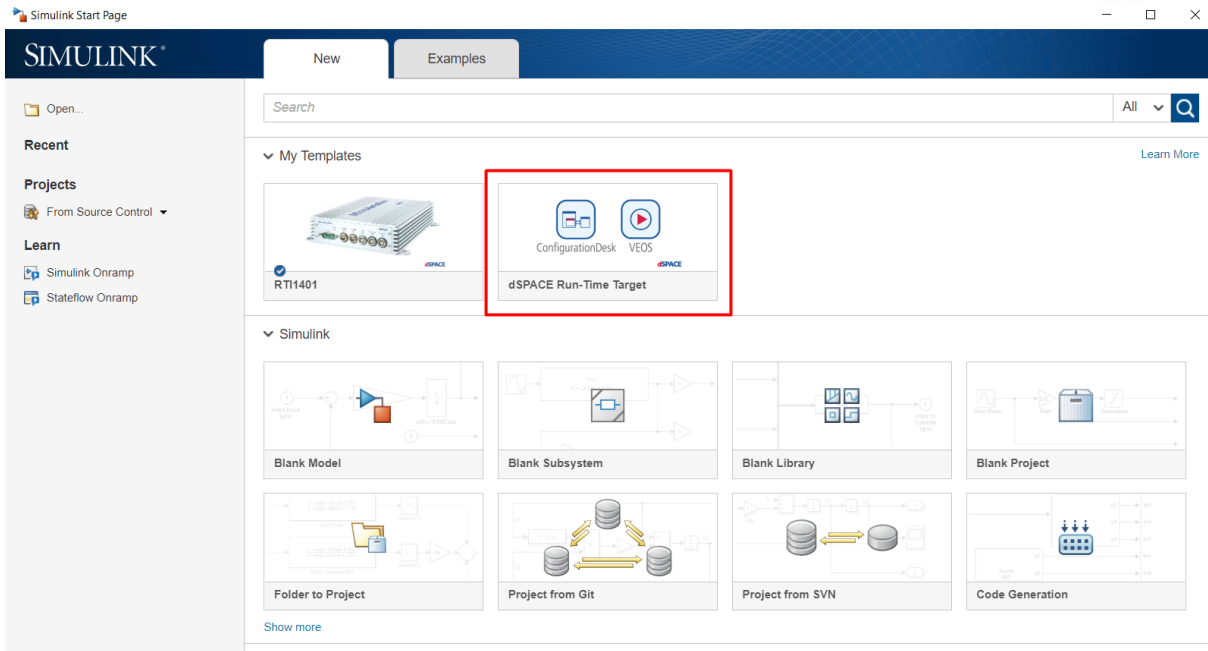

Figure 12.56: Create a Simulink model.
- 2) Create a new Simulink model (henceforth referred to as `dSPACE-MABXIII.slx`) using the dSPACE Run-Time Target template provided by dSPACE and save it in the `BasicExample` folder (see Figure 12.56).